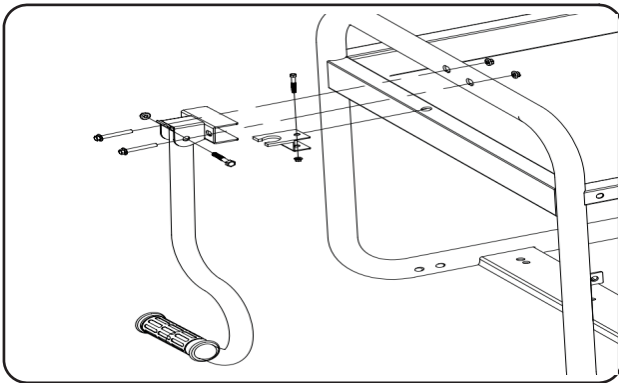

Fig 1
Attaching Handle (See fig 1)
- Install handle bracket to generator frame. (fig. 1)